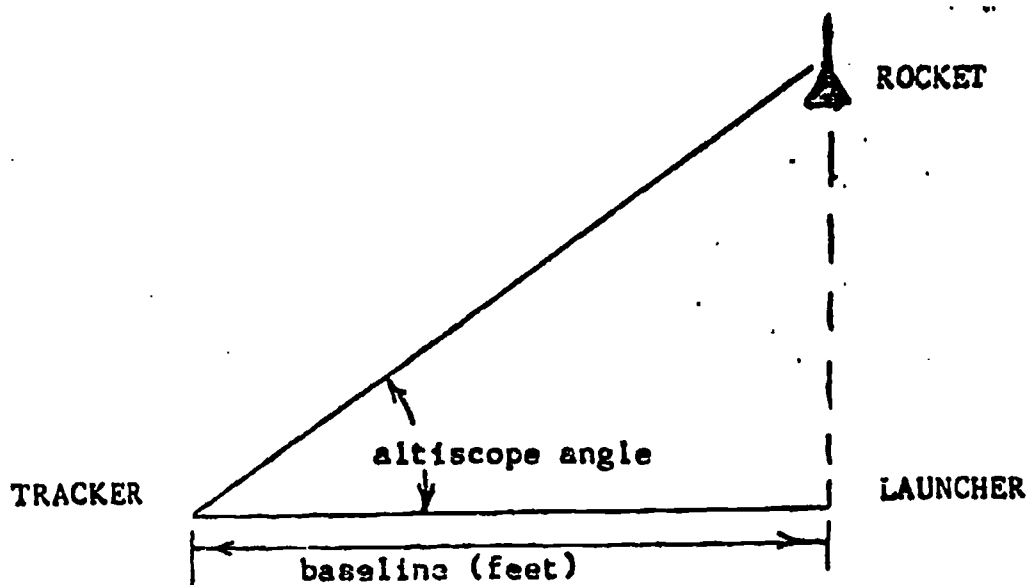

Figure 2 Method used for tracking the rocket with the altiscope.
1. Measure the distance from the altiscope to the launch pad. A recommended distance would be 500 feet. This distance is called the baseline, as shown in Figure 2.